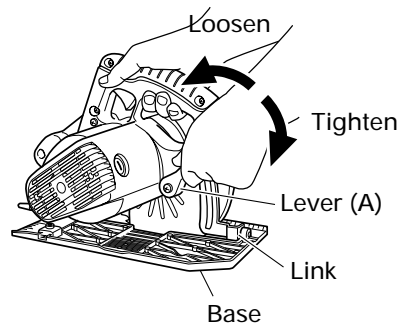
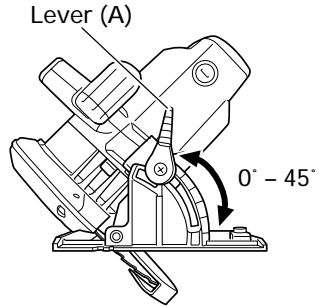

Fig. 10
Fig. 11
7. Check if lever (A)s are tightened.
If the lever (A) to adjust cutting depth (Fig. 10) and lever (A) to adjust angle of inclination (Fig. 11) are loose, injury can result. Make sure that they are tightened securely.
## 1. Adjusting the cutting depth (Fig. 10)
As shown in Fig. 11 by loosening the lever (A) on the bevel scale, the saw blade may be inclined to an angle of 45° in relation to the base.